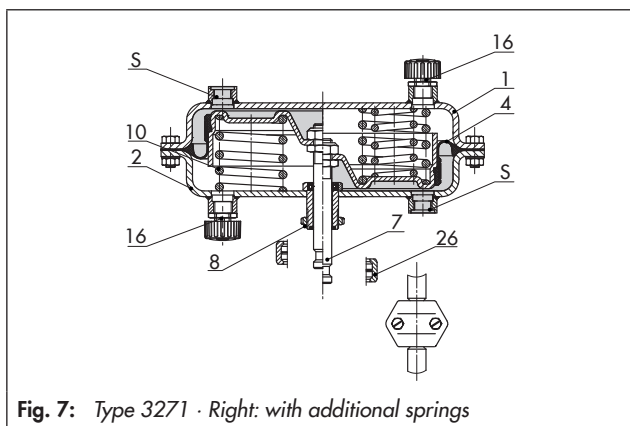
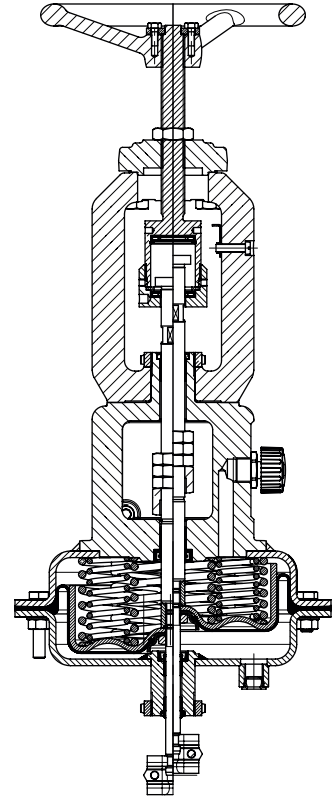

Fig. 7: Type 3271 · Right: with additional springs
Fig. 14: Type 3271 (175v2 cm²) - Combined version with hand-wheel and travel stops on both sides
- **Type 3271 or Type 3277 · Combined version with handwheel and travel stops on both sides** (Fig. 14) for 175v2 to 750v2 cm² actuator areas (not for 240 cm²)
Legend for Fig. 7 to Fig. 14